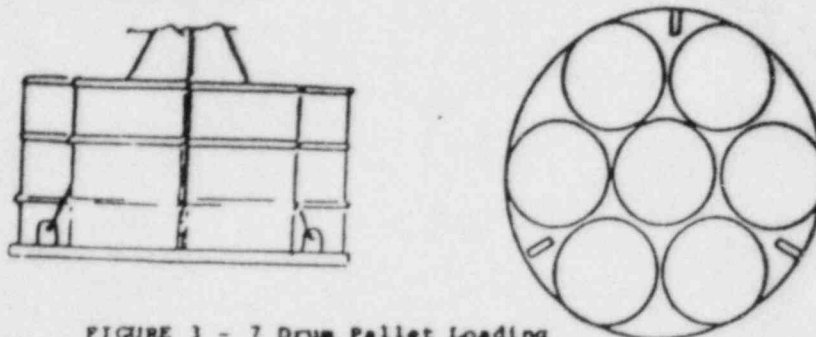

FIGURE 3 - 7 Drum Pallet Loading
6.3.3.2 Exercising caution to avoid placing drums on the pallet lift slings, load seven (7) drums on the lower pallet left in the cask. (See Figure 3 for drum placement on pallet.)
Exercising caution to avoid placing drums on the pallet lift slings, load seven (7) drums on the top pallet in the cask (see Figure 3).
6.3.4.3 Load seven (7) drums onto each pallet (see Figure 3).
6.3.4.4 Lift one of the loaded pallets and place it inside the cask. For maximum shielding, ensure proper orientation of pallet (see Note of Figure 3). Ensure slings of lower pallet are accessible for retrieving when off-loading.
6.3.4.5 Lift the other loaded pallet and place it inside the cask on the top of the first pallet. For maximum shielding, ensure proper orientation of pallet (see Note of Figure 3).